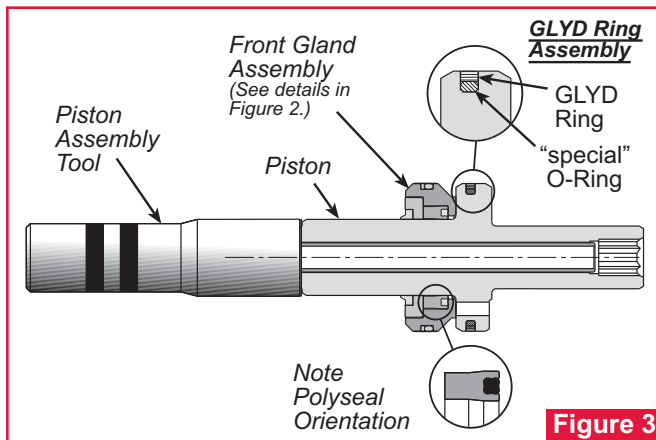

Figure 3
1. Install GLYD Ring Assembly (9) on Piston (1). [Place the special O-ring in groove; place GLYD Ring on top of it. Roll GLYD Ring's diameter to a diameter smaller than Piston before installing ring. This is to insure that ring stays in place during Piston installation.] (Fig. 3)
2. Thread Piston Assembly Tool 123111 onto Piston (1). **Note: Do not install Spacer.** (Fig. 3)
3. Push Front Wiper Housing (4) into Front Gland (8). **Taking care not to pinch inner ring of Polyseal (7),** press it into Front Gland. Lubricate inside diameter of Polyseal and outside diameter of Piston. While holding Wiper Housing in place, guide Front Gland/ Polyseal onto Piston.